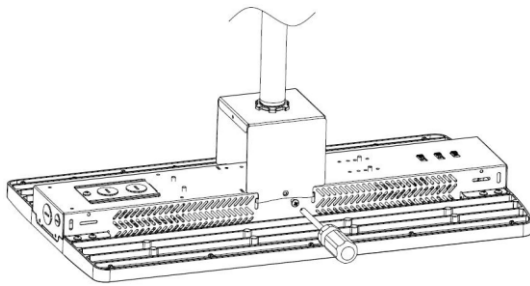

FIG. 8
- 2 Secure the fixture onto the bracket and lock it in place. (Figure 8)